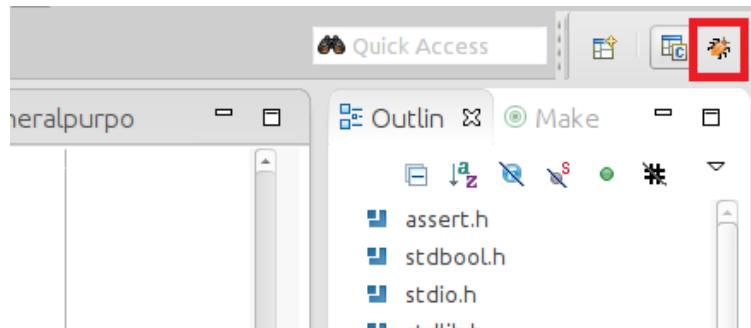

Figure 8-37. Switching to the DS-5 Debug Perspective
- Switch to the DS-5 Debug perspective, as shown in Figure 8-37.